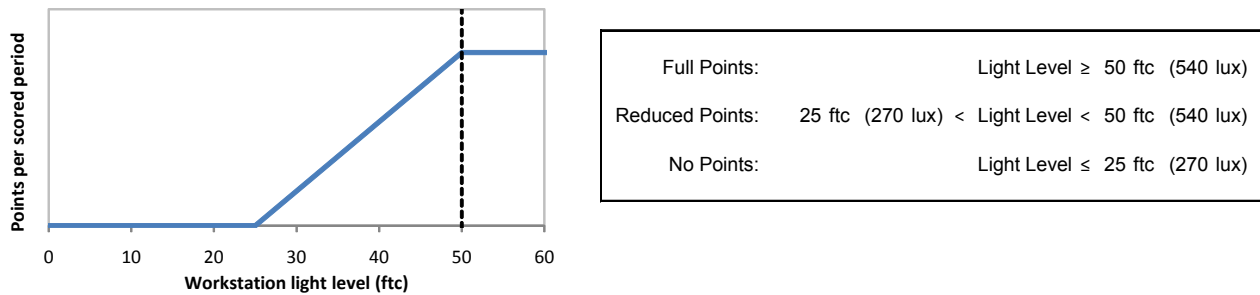

Figure 11: Scoring function for the Workstation Lighting subcontest
- (i). Reduced points are earned if the time-averaged work surface light level is between 25.0 foot-candles (269 lux) and 50.0 foot-candles (538 lux). Reduced points are scaled linearly, as shown in Figure 11.